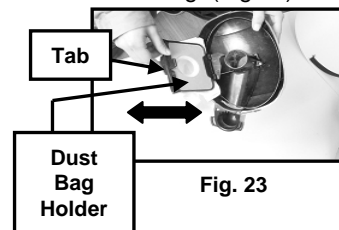

Fig. 23
- Holding the HEPA dust bag in your hand, slide it out from the slots in the bag holder. Hold carefully in order to avoid having dust fall out of HEPA dust bag. (Fig. 23)